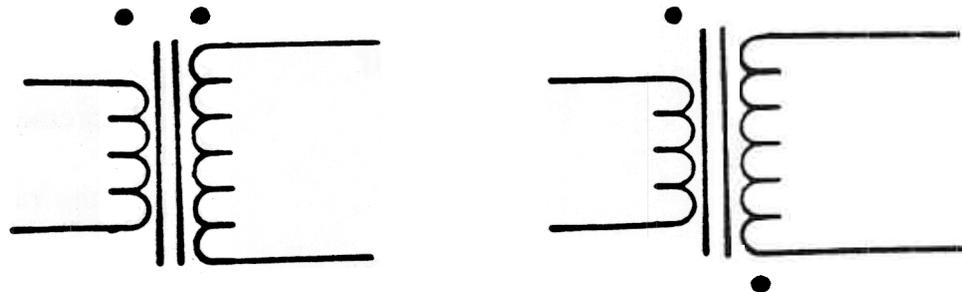

Figure 4
- (4) Phase relationship - The phase of the current in the secondary of a transformer is dependent upon the phase of the voltage into the primary winding and the direction of the winding in the secondary. If the secondary windings are wound in the same direction as the primary windings, then the phase between the input signal and the output signal will be the same. If the secondary windings are wound in the opposite direction of the primary windings, then the phase between the input signal and the output signal is 180° out of phase. The schematic drawing of a transformer will show the phase relationship between the primary and secondary of a transformer with the use of dots. The dots on a schematic indicate which windings are in phase. Refer to figure 4.